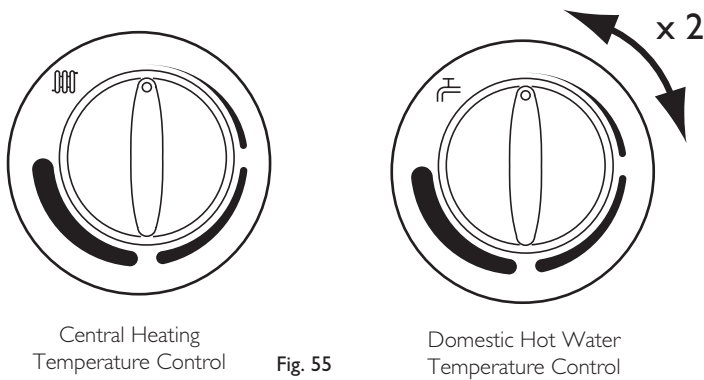

Fig. 55
3. Ensure that the integral timer and any external controls are calling for heat, and the selector switch is in the central heating and hot water position (P). The current boiler temperature is shown on the display.
5. Turn both temperature control knobs fully anticlockwise, then quickly turn the DHW temperature knob 1/4 clockwise twice and back fully anticlockwise (Fig. 55).